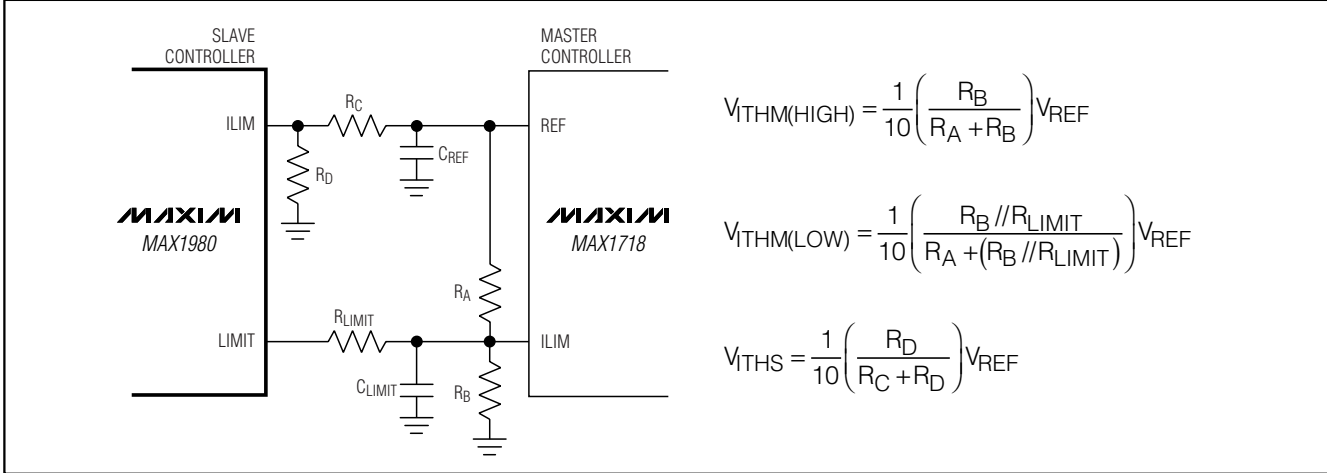

Figure 5. Setting the Adjustable Current Limits
where  $V_{I THM}$ , the master's current-limit threshold, is typically 1/10th the voltage seen at the master's ILIM input ( $V_{I THM} = 0.1 \times V_{LIM(MASTER)}$ , see the master controller's data sheet). Connect a resistive voltage-divider from the master controller's internal reference to GND, with the master's ILIM input connected to the center tap (Figure 5). Use 1% tolerance resistors in the divider with 10 $\mu$ A to 20 $\mu$ A DC bias current to prevent significant errors due to the ILIM pin's input current:
where  $V_{I THS}$ , the slave's current-limit threshold, is precisely one-tenth the voltage seen at the slave's ILIM input ( $V_{I THS} = 0.1 \times V_{LIM(SLAVE)}$ ). Connect a second resistive voltage-divider from the master controller's internal reference to GND, with the slave's ILIM input connected to the center tap (Figure 5). The external adjustment range of 400mV to 1.5V corresponds to a current-limit threshold of 40mV to 150mV. Use 1% tolerance resistors in the divider with 10 $\mu$ A to 20 $\mu$ A DC bias current to prevent significant errors due to the ILIM pin's input current. Reducing the current-limit threshold
Now select the resistive-divider values ( $R_A$  and  $R_B$  in Figure 5) to set the appropriate voltage at the master's ILIM input:
Select the resistive-divider values ( $R_C$  and  $R_D$  in Figure 5) to set the appropriate voltage at the slave's ILIM input:
- 4) Determine  $R_{LIMIT}$  (Figure 5) from the above equation: